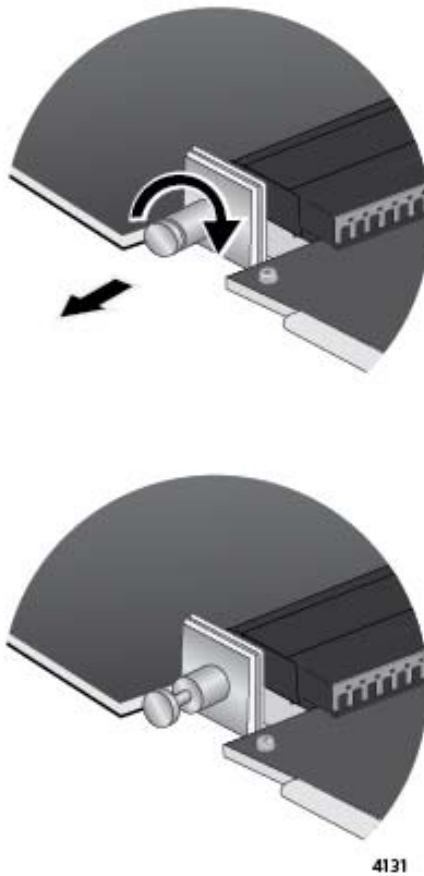

Figure 161. Retracting the Retaining Pin on the AT-SBx81XLEM Line Card
4. With your thumb and forefinger, pull out the retaining pin on the side of the line card and turn it clockwise one quarter turn until it remains in the retracted position. Refer to Figure 161.